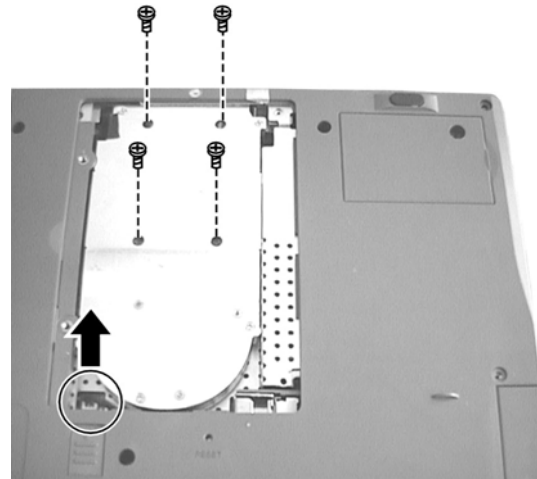

Figure 2-3
3. Remove four screws fastening the heatsink and disconnect the fan's power cord to free the heatsink from the CPU module. (figure 2-3)